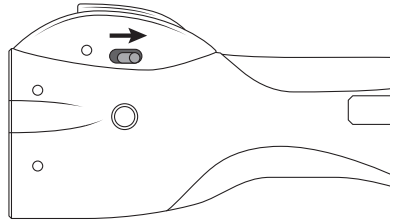

Fig 1
1. PLACE THE MOBILE™ IN SAFE MODE - Slide the safety back towards the rear of the launcher. (Fig 1)